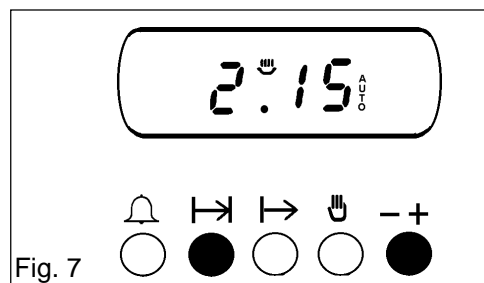

Fig. 7
- iii) To set the length of cooking time, press the cooking hours button () and while holding it down, turn the increase control (+) until the required length of cooking time is displayed, e.g. 2 hrs 15 mins as Fig. 7. If necessary turn the decrease control (-) until the correct time interval is achieved.